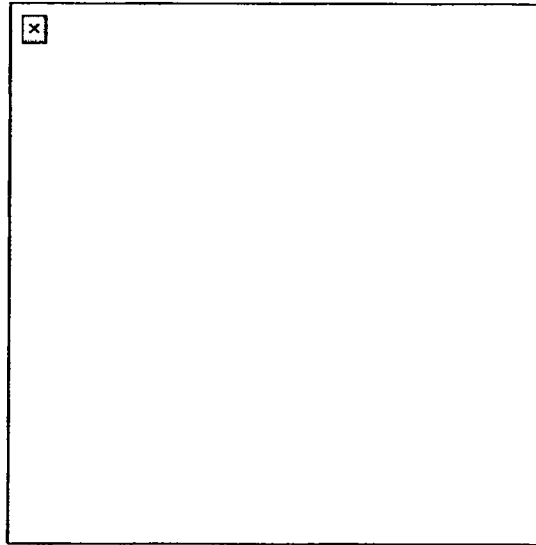

Figure 22. Engaging the vertical cam assembly.
- (1) Rotate the feed slide assembly and tray upward.
- (2) Engage the forked end of the secondary drive lever with the feed slide pin.
- (3) Press the raised pivot post through the hole in the stop cover.
- (4) Press the secondary drive lever against the top cover until it locks into place.
- h. Engage the vertical cam assembly (Figure 22).